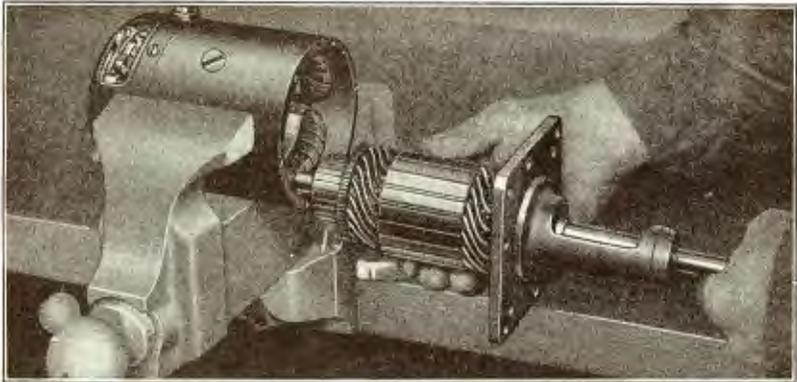

Fig. 488
- 957** Mounting bracket and armature can now be withdrawn from yoke (See Fig. 488). If armature sticks in yoke it can be loosened by tapping edge of yoke against bench.